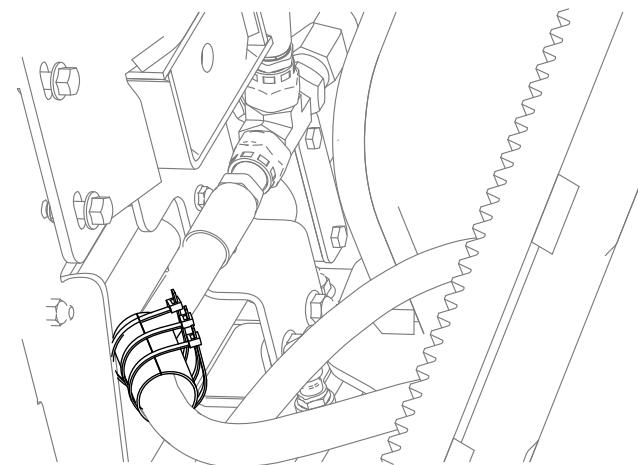

Figure 6
6. Install the hose guard using the 3 cable ties (Figure 6).